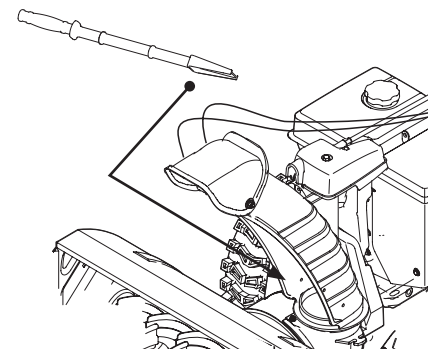

Figure 3-18
4. Use the shovel-shaped end of the clean-out tool to dislodge and scoop any snow and ice which has formed in and near the chute assembly. Always use the clean-out tool (Part # 931-2643), not your hands. Refer to the separate supplement for clean-out tool ordering information. See Figure 3-18.